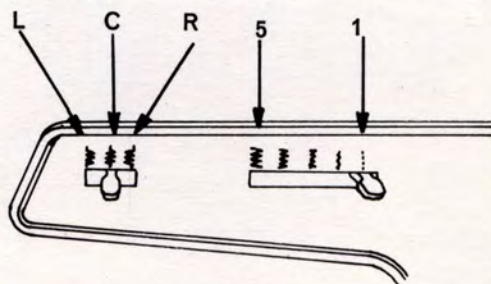

Fig. 34.
1. Set needle position lever at center and bight amplitude lever at straight stitching position (see C and 1 fig. 34 pag. 22).